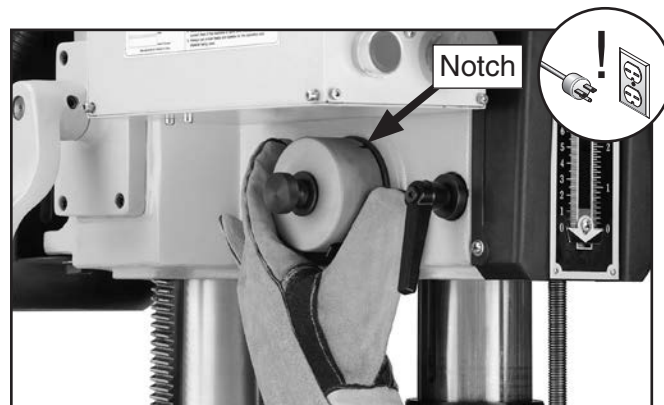

Figure 45. Example of adjusting spring tension by rotating spring cover to engage next notch with roll pin.
4. Wearing gloves, pull spring cover (**Figure 45**) out enough so notches just clear roll pin. HOLD SPRING COVER TIGHTLY during this step, or force of spring will cause cover to spin out of your hands.
5. Rotate cover counterclockwise to increase tension, then push cover back in to engage roll pin with one of the notches, as shown in **Figure 45**, then retighten thumb knob.